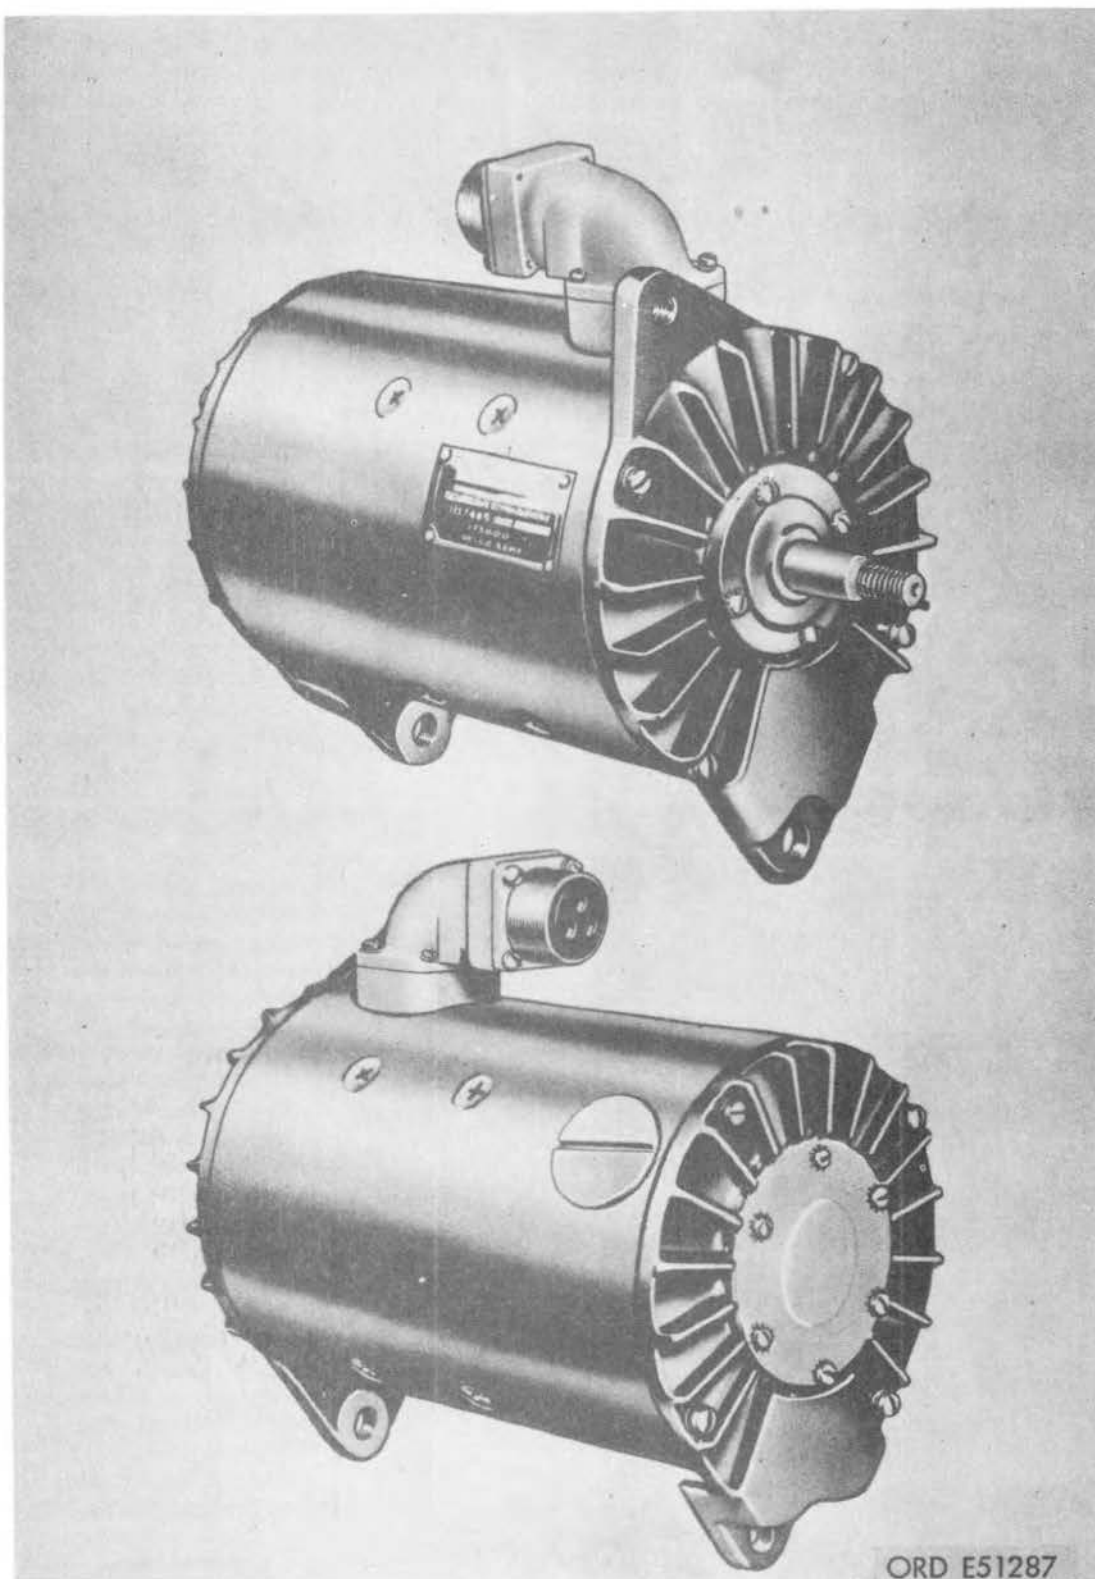

FIGURE 1. GENERATOR ASSEMBLY - 2920-735-5736 - ASSEMBLED VIEW.
a. This technical manual contains instructions for field and depot maintenance of the generator assembly, 2920-735-5736 (fig. 1). These instructions contain information on maintenance which is beyond the scope of the tools, equipment, or supplies normally available to using organizations. This manual contains descriptions of, and procedures for troubleshooting, disassembly, inspection, repair, and assembly of the generator.